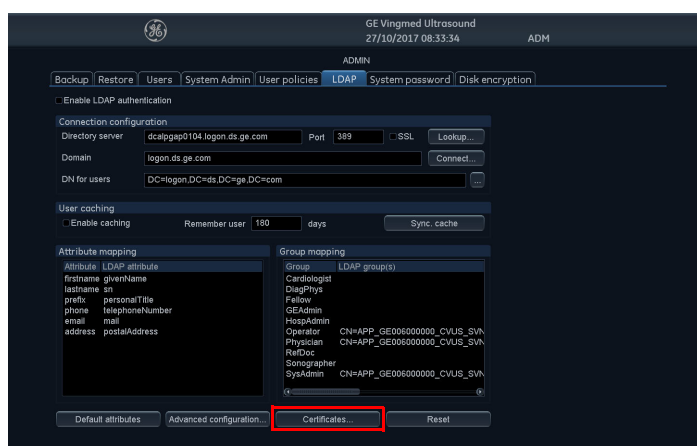

Figure 3-38 LDAP config screen
- a.) First go to LDAP config, see Figure 3-38.